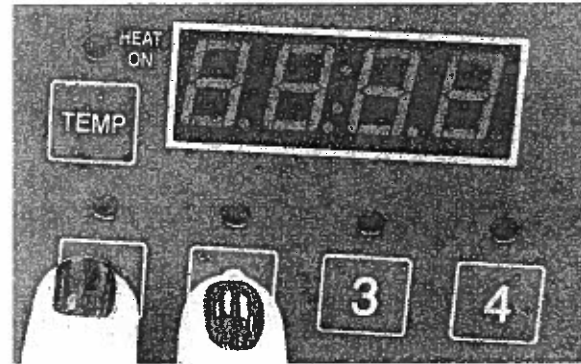

Figure 3
1. Turn off the power switch. Press and hold both the UP(1) and DOWN(2) arrow buttons on the left display while the power switch is turned on (see Figure 3). Input the passwords, then the display will show "SET."